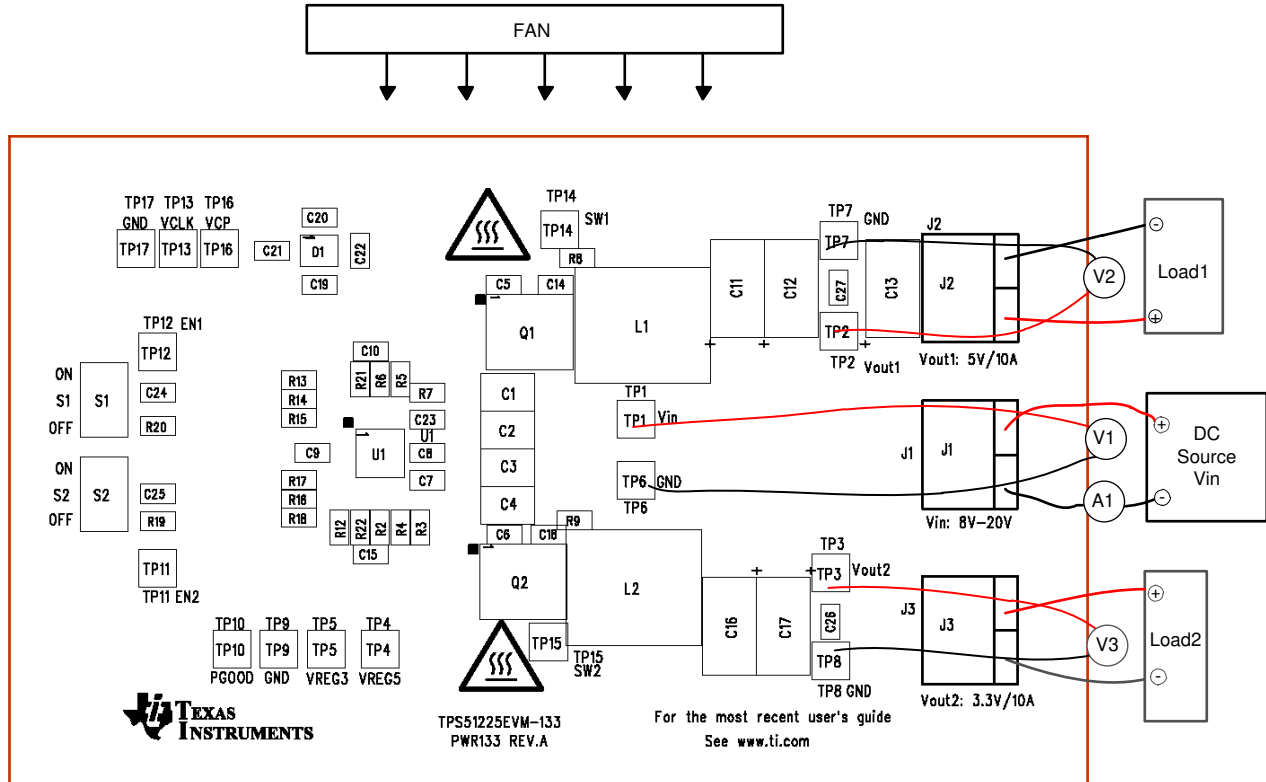

Figure 4-2. TPS51225EVM-133 Recommended Test Setup
Voltage Source: The input voltage, V_{IN} , should be a 0-V to 20-V variable DC source capable of supplying 10 A_{DC} . Connect VIN to J1 as shown in Figure 4-2.
Figure 4-2 is the recommended test setup for evaluating the EVM. Working at an ESD workstation, make sure that any wrist straps, bootstraps, or mats are connected referencing the user to earth ground before power is applied to the EVM.
1. Prior to connecting the DC input source, V_{IN} , it is advisable to limit the source current from V_{IN} to 10-A maximum. Make sure V_{IN} is initially set to 0 V and connected as shown in Figure 4-2.
Place a fan as shown in Figure 4-2 and turn it on, making sure air is flowing across the EVM.
1. Set up the EVM as described in Section 4 and Figure 4-2.